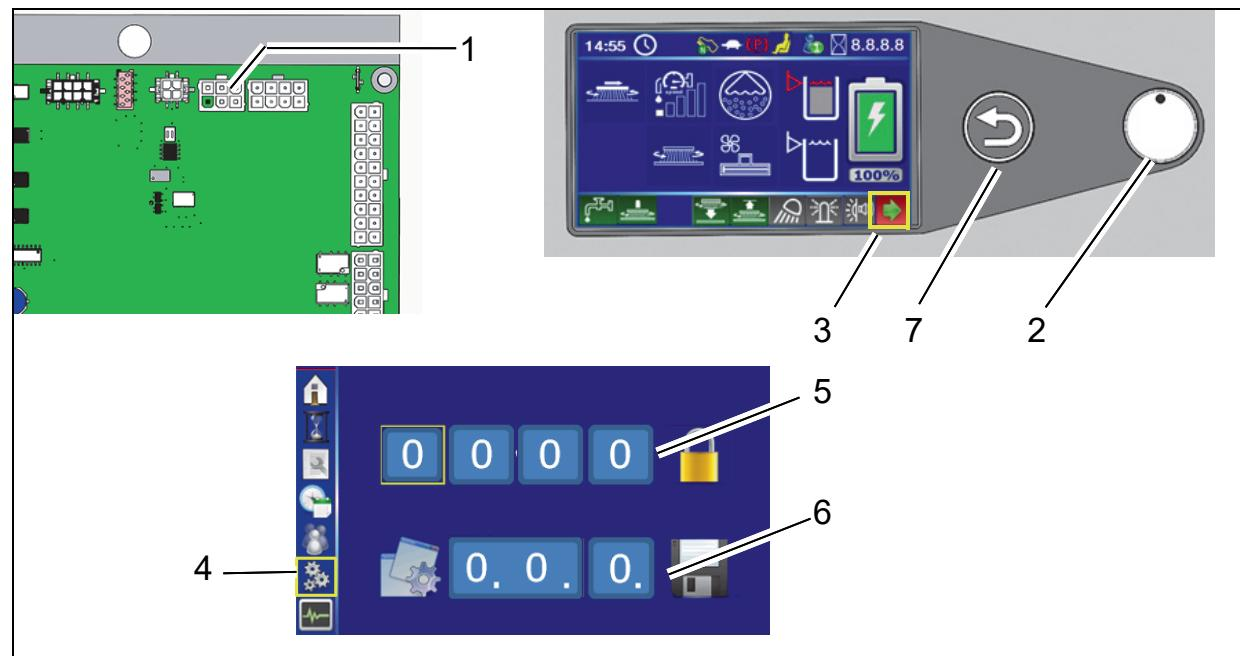

Fig. 3
of controller A1 (Fig. 3/1).
2. Select the arrow soft key (Fig. 3/3) on the control panel using the turn-push knob (Fig. 3/2) and press to access the sub-menu.
3. Select the configuration menu in the sub-menu (Fig. 3/4).
4. Enter the 4-digit code in the configuration menu at the top (Fig. 3/5):
In the configuration menu at the bottom (Fig. 3/6), set the value of the option and save by pressing the turn-push knob. After confirming the last digit, **OK?** appears. Press the turn-push knob again to save the value. Saved value is displayed in green.
If the value is not to be saved, exit menu using the return key (Fig. 3/7).